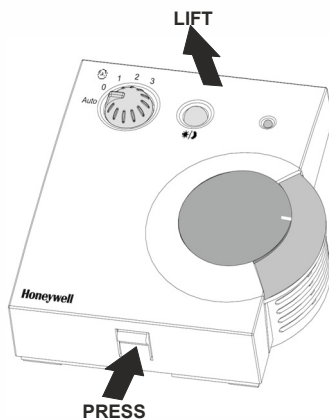

Fig. 1. Cover disassembly
The cover of the wall module is fixed in place using a tab located on the underside of the unit; to disassemble the cover and the sub-base, see Fig. 1.
1. Disassemble the cover as is shown in Fig. 1.